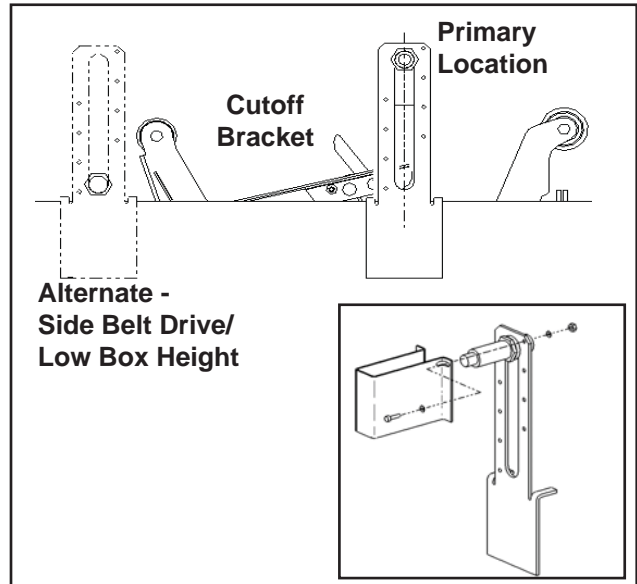

Figure 2-17
- 2) Determine the appropriate mounting location for your application. The box present sensor can be mounted at various locations from a point ahead of the applying roller to the end of the cutoff bracket. Whenever possible the sensor/reflector brackets should be positioned approximately 1/2" from the end of the lower taping head cutoff bracket. For applications with top taping only the position should be chosen using the upper taping head cutoff bracket. The sensor must also be positioned to detect the lowest height box without being blocked by taping head movement. Mounting location and adjustment will vary with each application (**See Figures 2-17 & 2-18**).